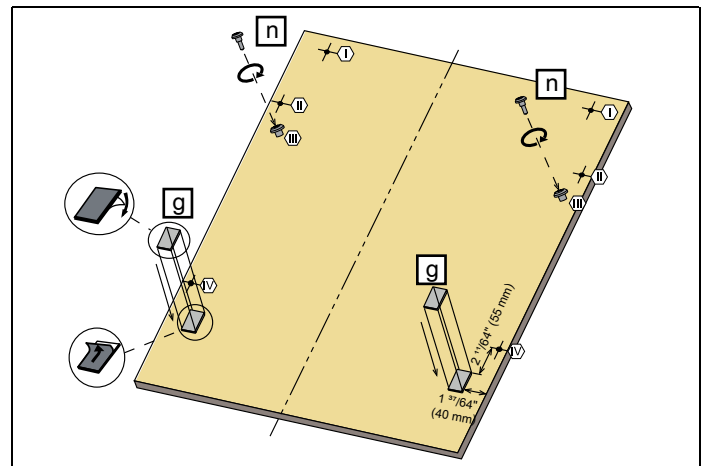

Fig. 25
3) As shown in Fig. 25, Screws $\varnothing 5/32"$ x $27/32"$ (4mm x 21.5mm) are installed in positions III.
4) As shown in Fig. 25, Wooden Door Fixing Strips are installed in the positions shown in the figure.